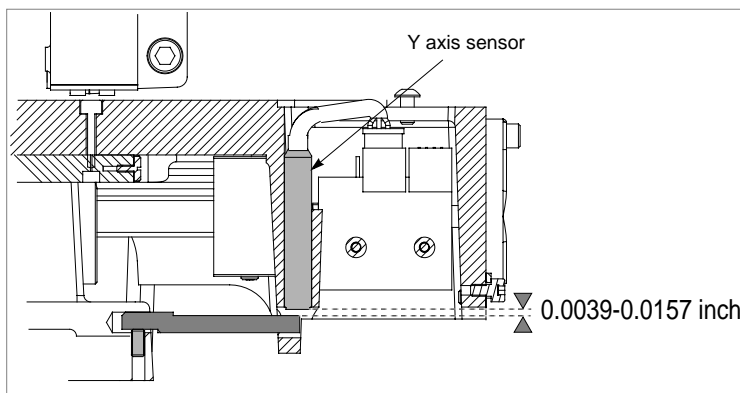

Fig. 52
- 15) remove the faulty sensor and replace it with a new one. Screw it in until it almost touches the underlying rod (fig. 52). Tighten the (M2) grub screw to lock the sensor into place.